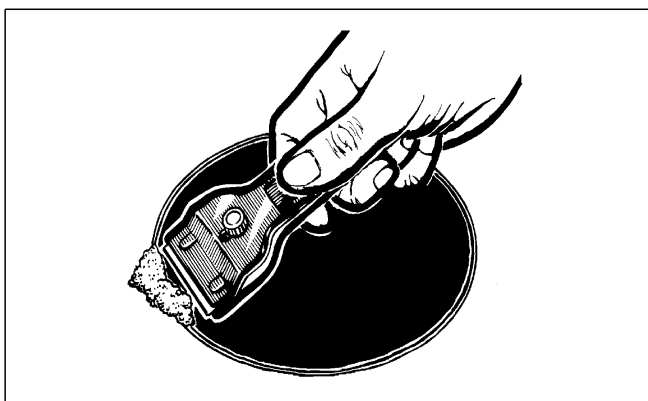

FIG. 3
- Burnt or soiling may be removed with a special razor scraper (fig. 3); **be aware that the razor can cause wounds.**